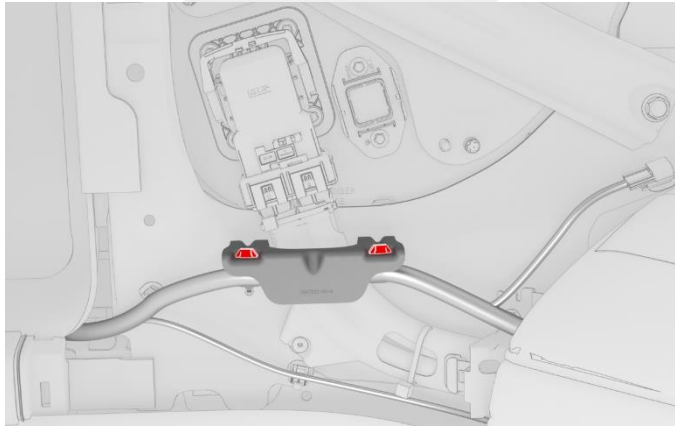

Figure 3
9. Release the clips (x2) that attach the low voltage electrical harness to the charge port to HV harness bracket at the penthouse (Figure 3), and then remove the bracket from the vehicle.